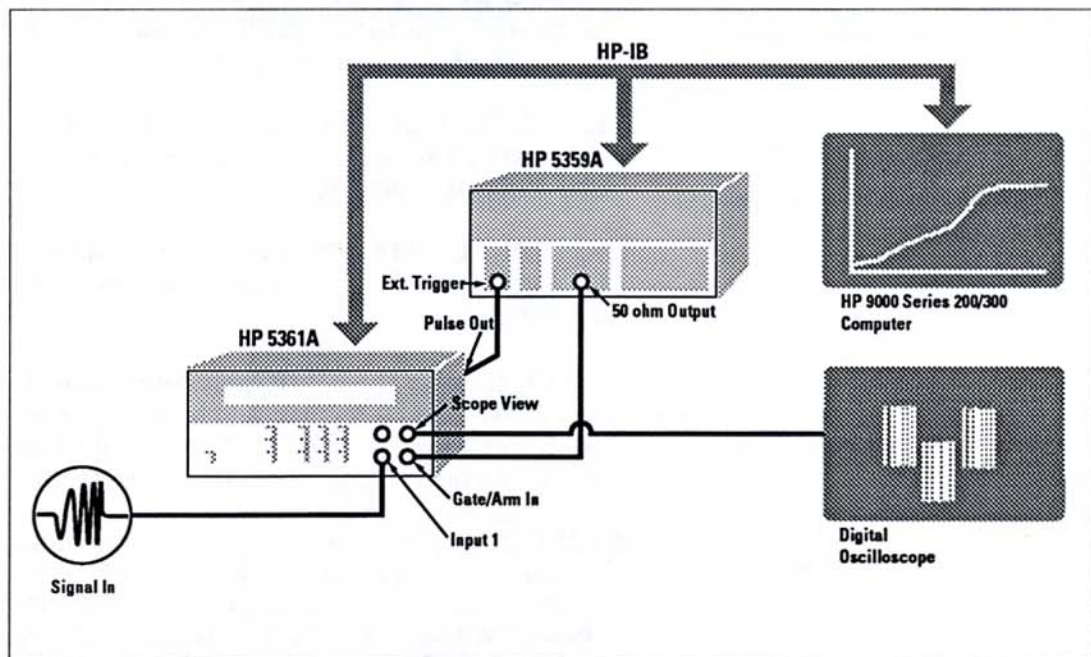

FIGURE 3. Measurement Setup Block Diagram
■ The automatic measurement system for performing frequency profiling, as shown in Figure 3, includes the following instruments:
■ Connect the test equipment as shown in Figure 3. The following is a step-by step guide to connecting and running the system to perform pulse frequency profiling.